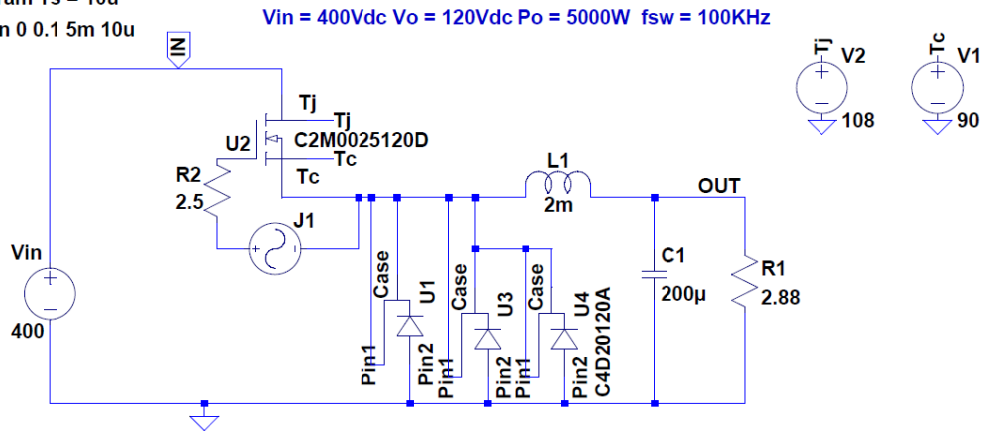

Figure 1: 5KW Buck converter model circuit
3. The model will be similar to the one shown in figure 1.